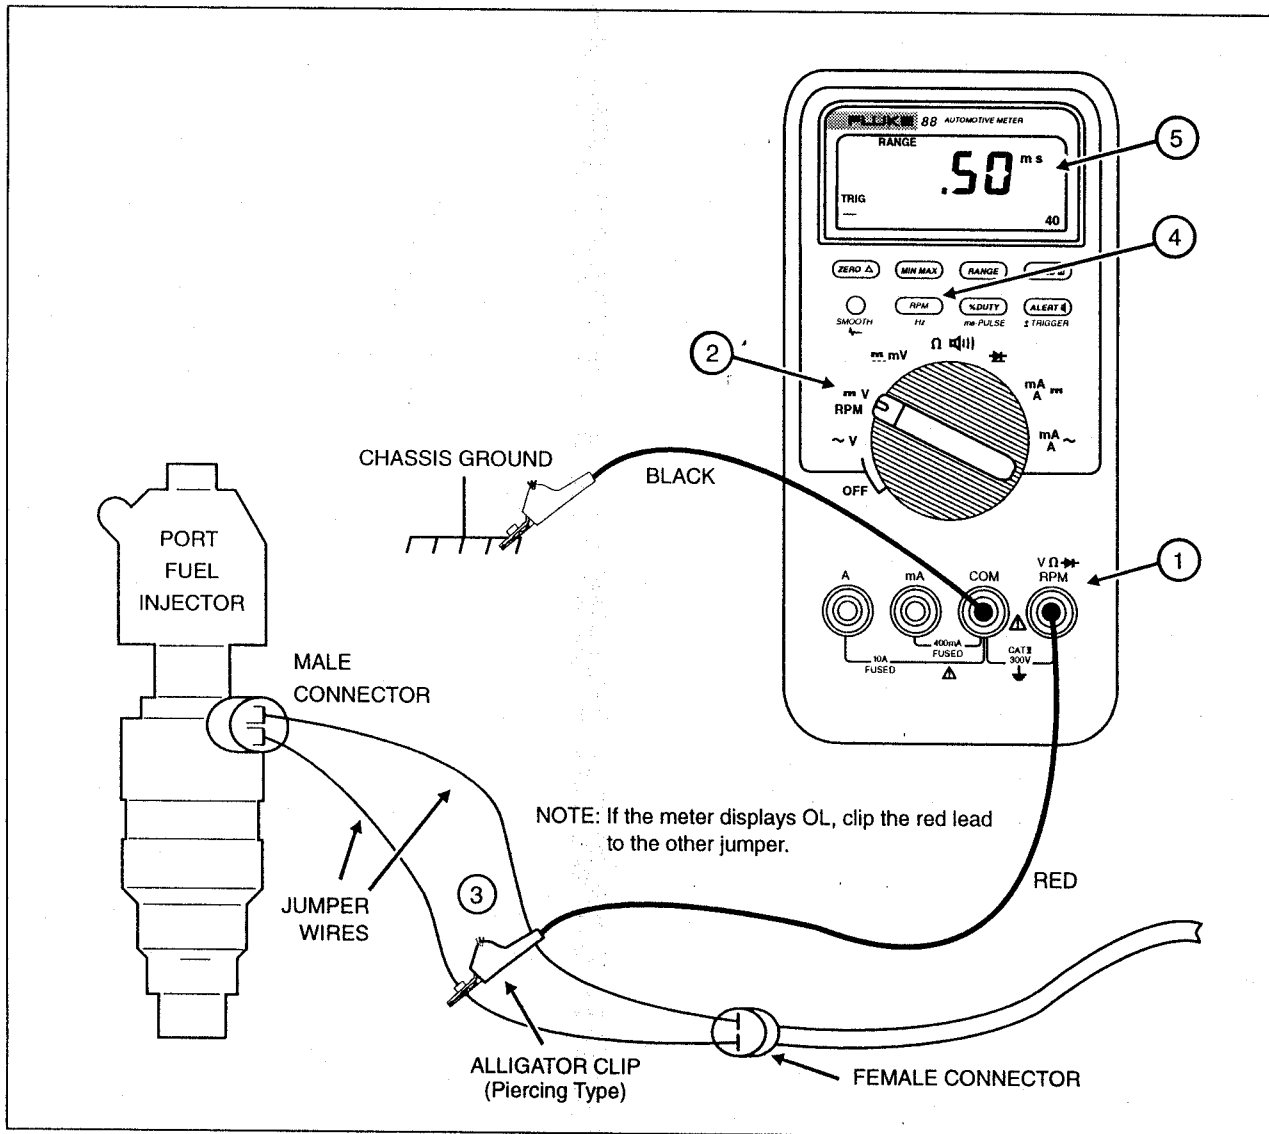

Figure 14. Measuring Pulse Width on a Port Fuel Injector
1. Insert test leads in the input terminals shown in Figure 14.